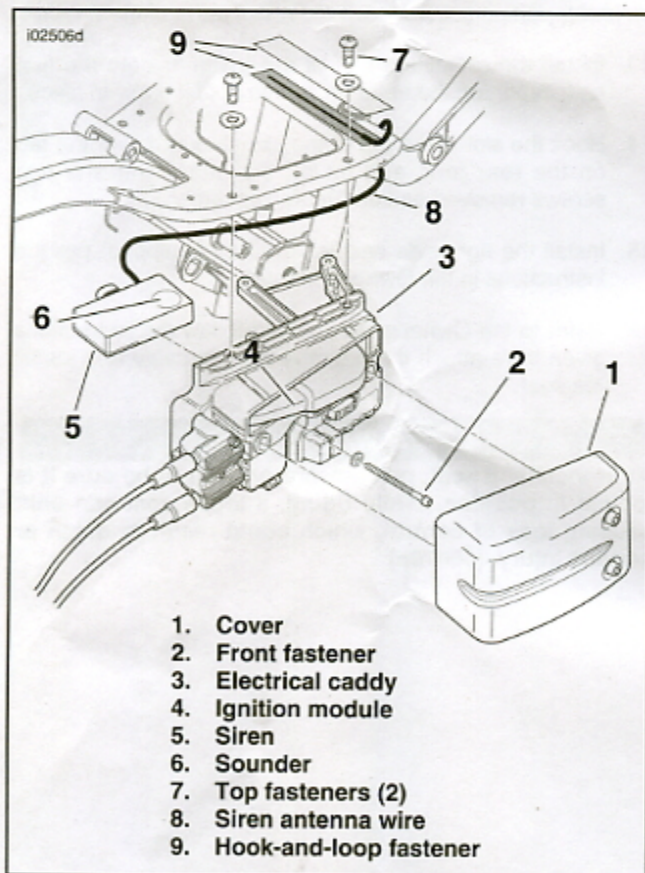

Figure 14. Install Siren in Electrical Caddy (Dyna Models)
2. See Figure 14. Firmly grasp both sides of the electrical caddy cover (1), and pull outward to remove.